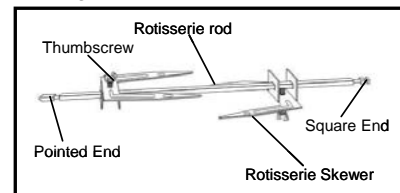

Fig. 1
1. Insert the pointed end of the rotisserie skewer through the rotisserie rod, making sure the points of the rotisserie skewer face in the same direction as the pointed end of the rotisserie rod. Slide rotisserie skewer towards the square end of the rotisserie rod and secure with the thumbscrew. (Fig. 1)